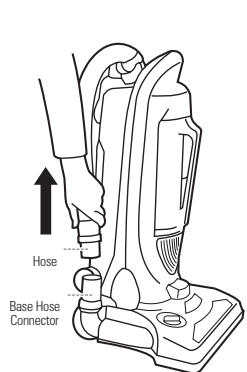

Fig. 16
1. Remove hose from base hose connector. (Fig. 16)